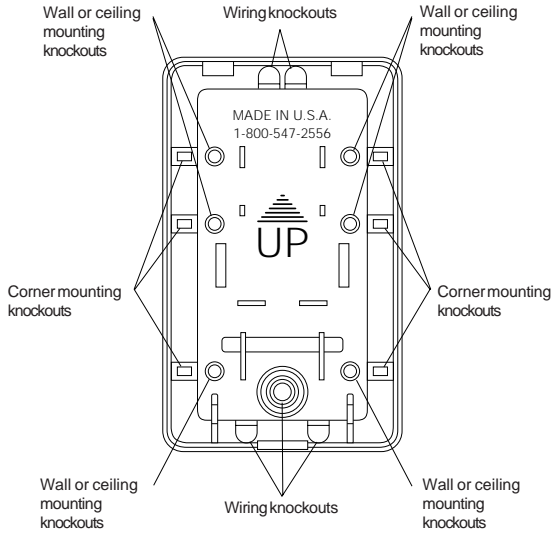

Figure 3. Back cover
3. Mount the back cover to a ceiling, wall, or corner. For wall mounting, make sure the "up" arrow is pointing up. Use the appropriate mounting knockouts. See Figure 3.